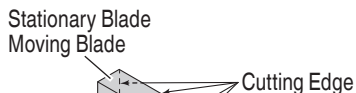

Fig. 9
4. Blade replacement (see Fig. 9, 10)